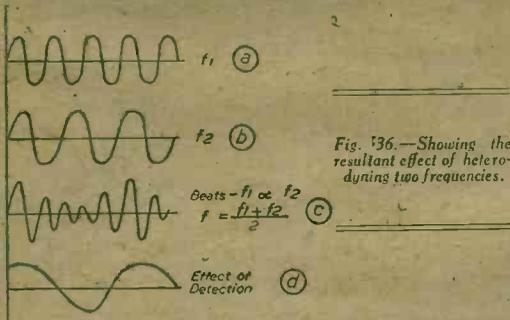

Fig. 36.—Showing the resultant effect of heterodyning two frequencies.
In Fig. 36 (a) and (b) we have two frequencies,  $f_1$  and  $f_2$ . Fig. 36 (c) shows the effect of placing  $f_1$  and  $f_2$
then the beat frequency is  $f_1 - f_2 = 10$  kc/s p.s., therefore two radio frequencies can produce a low frequency beat which is the result of the two waves falling in and out of step with one another over a period of time. If we "detect" this resultant wave then we obtain a 10 kc/s p.s. voltage, as in Fig. 36 (d).
The frequency of (c) Fig. 36 is the average frequency  $\frac{f_1 + f_2}{2}$ , whilst a further frequency,  $f_1 + f_2$ , is also produced; we are not concerned with that.
Continuous or unmodulated carrier-waves are generally used for morse communication, because of the greater range possible with this type of transmission. By reference to Figs. 36 and 27 it is obvious, because of the constant amplitude of the wave, that detection will produce no audible note, merely a "click" if the wave suddenly stops or starts. To convert the R.F. into an audible frequency in a superheterodyne receiver, a second heterodyne action is required and is provided by the heterodyne oscillator (K). The R.F. is thereby stepped down to an audible frequency when heterodyned and detected. L.F. appears across the output of (G) and a steady whistle is heard in the telephones.